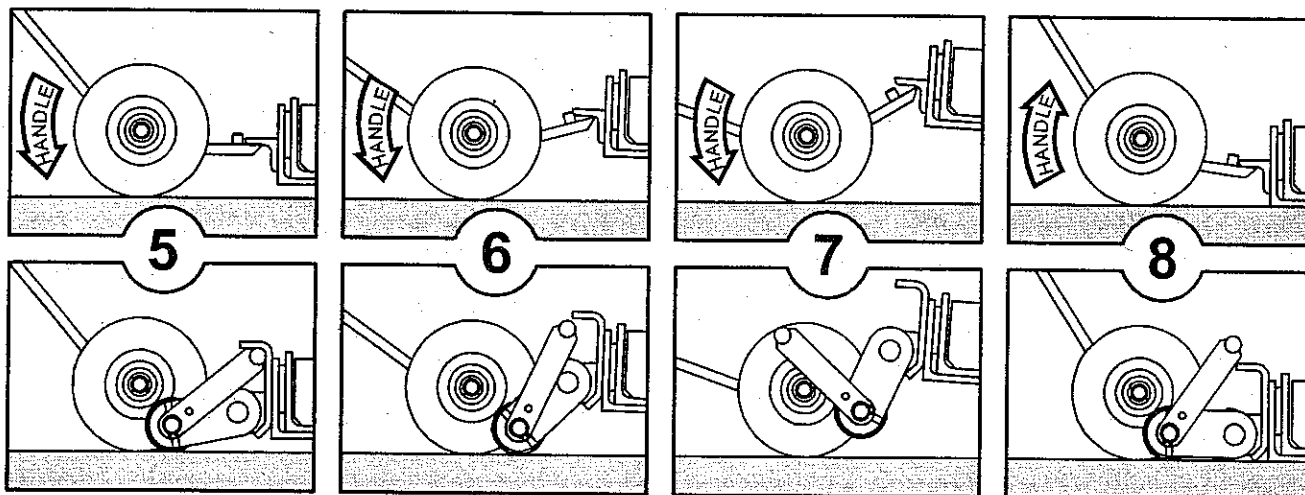

Figure 19 Portability Wheel Disengagement
8. Reposition the dolly tongue under the base lift plate, as detailed in Figure 19, Section 5.
9. Slowly raise the base frame until the stop arm falls backwards, as shown in Figure 19, Sections 6 and 7.
10. Lower slowly until the base frame sets completely on the floor, as shown in Figure 19, Section 8.